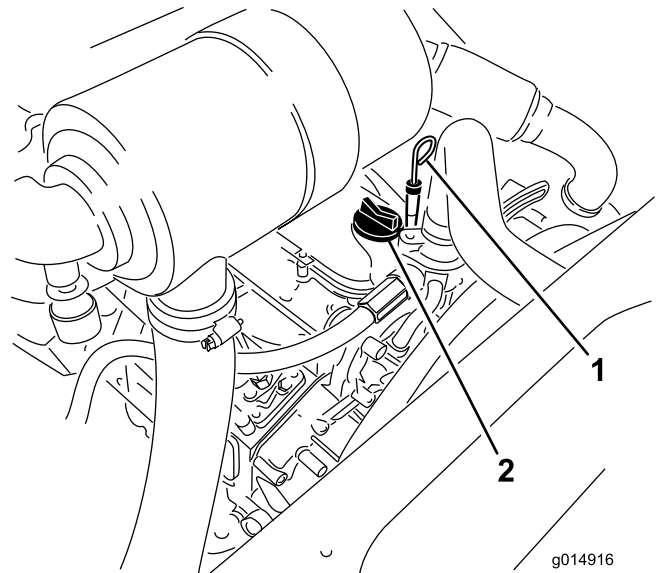

Figure 36
3. Remove the dipstick, wipe it clean, and install it (Figure 36).
- If the oil level is below the Full mark, remove the fill cap (Figure 36) and add oil until level reaches the Full mark on dipstick.